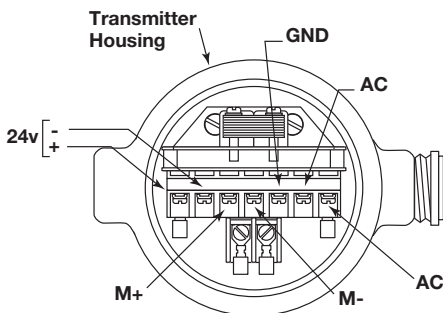

Figure 7
2. Connect the hot and neutral wires to the terminals marked AC. Connect the ground wire to the terminal marked GND. Refer to Figure 7.